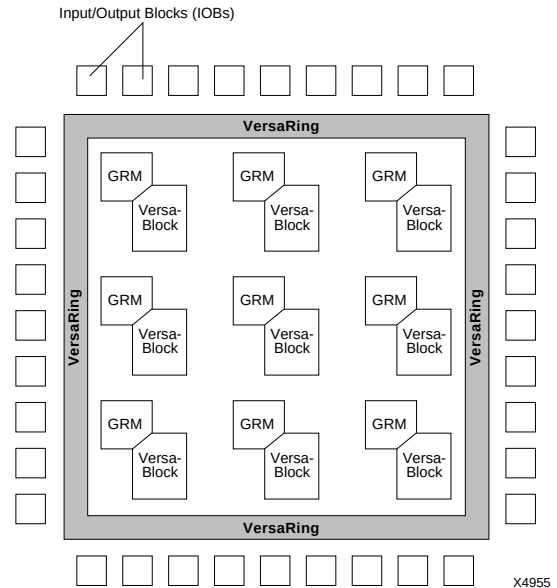
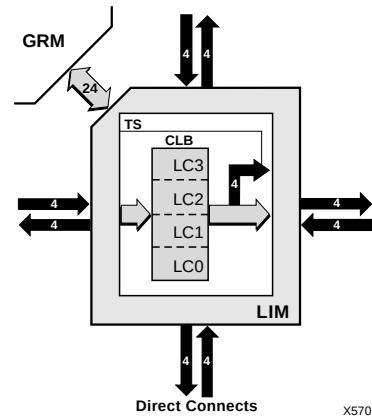
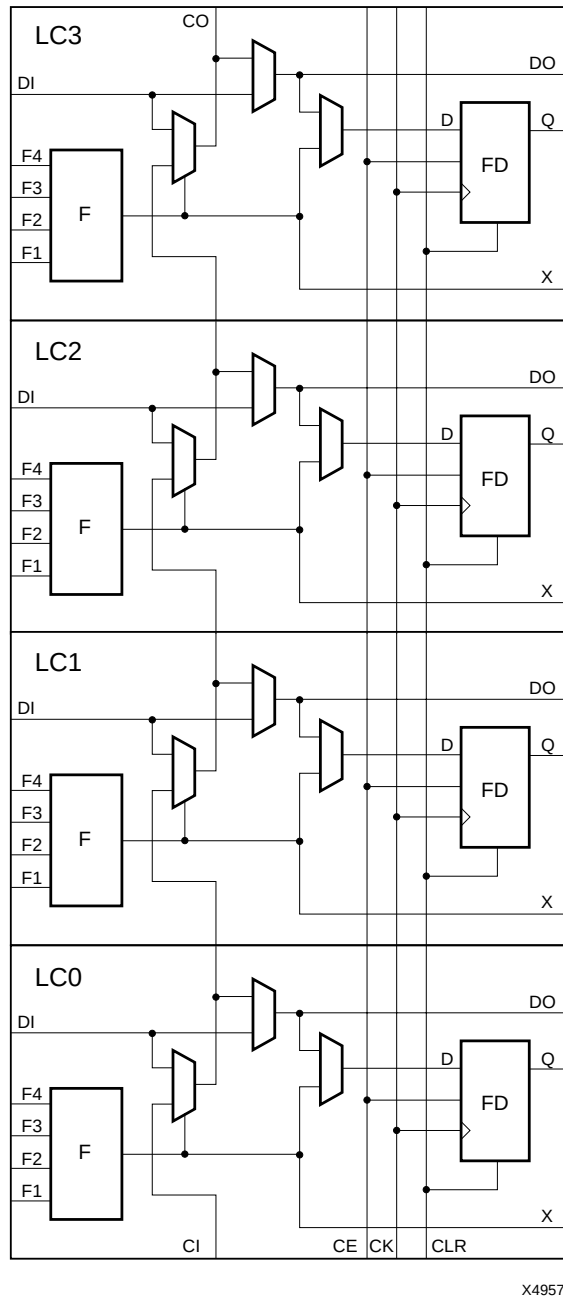

Figure 1: XC5200 Architectural Overview
Figure 2: VersaBlock
Figure 4: Configurable Logic Block
Figure 1 presents a simplified, conceptual overview of the XC5200 architecture. Similar to conventional FPGAs, the XC5200 family consists of programmable IOBs, programmable logic blocks, and programmable interconnect. Unlike other FPGAs, however, the logic and local routing resources of the XC5200 family are combined in flexible VersaBlocks (**Figure 2**). General-purpose routing connects to the VersaBlock through the General Routing Matrix (GRM).
The XC5200 CLB consists of four LCs, as shown in Figure 4. Each CLB has 20 independent inputs and 12 independent outputs. The top and bottom pairs of LCs can be configured to implement 5-input functions. The challenge of FPGA implementation software has always been to maximize the usage of logic resources. The XC5200 family addresses this issue by surrounding each CLB with two types of local interconnect — the Local Interconnect Matrix (LIM) and direct connects. These two interconnect resources, combined with the CLB, form the VersaBlock, represented in Figure 2.
Figure 4 shows the logic in the XC5200 CLB, which consists of four Logic Cells (LC[3:0]). Each Logic Cell consists of an independent 4-input Lookup Table (LUT), and a D-Type flip-flop or latch with common clock, clock enable, and clear, but individually selectable clock polarity. Additional logic features provided in the CLB are:
Four fast feed-through paths from DI to DO are available, as shown in Figure 4. This bypass is sometimes used by the automated router to repower internal signals. In addition to the storage element (Q) and direct (DO) outputs, there is a combinational output (X) that is always sourced by the Lookup Table.